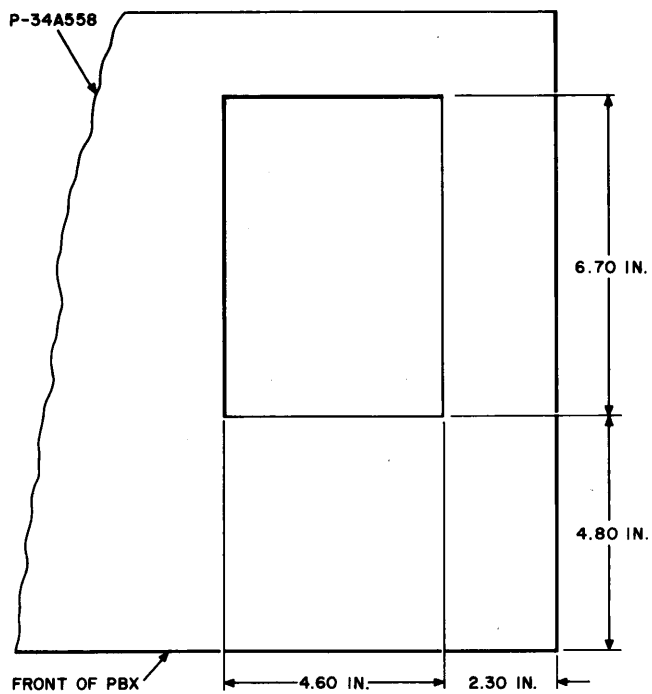

Fig. 22—Modification of Writing Shelf for Rotary Card Dialer (MD)
3.16 Necessary modifications to existing writing shelf and bulletin holder in order to install the rotary card dialer (MD) are shown in Fig. 22 and 23. The dial is not included in the stocklists for the conversion. In most instances, the standard dial will be available on the installation to be modified and will only need relocation.